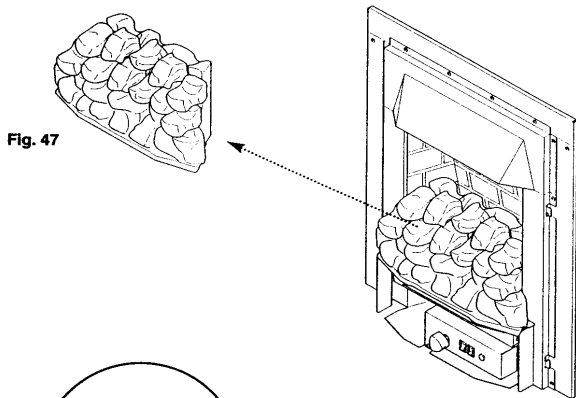

Fig. 47
4. Carefully remove all the loose coals, and the front and rear coal mouldings (Fig. 47).